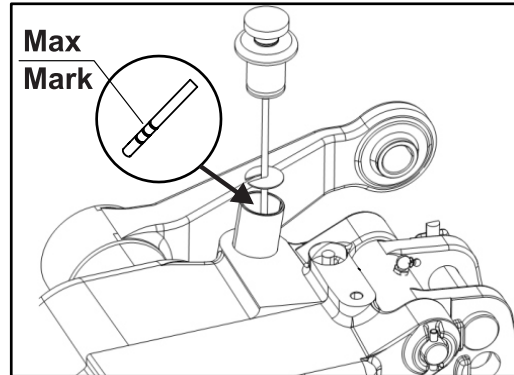

Fig.5-22
1. Fill up the transmission oil from dipstick plug opening to the maximum level mark on the dipstick (Fig 5-22).